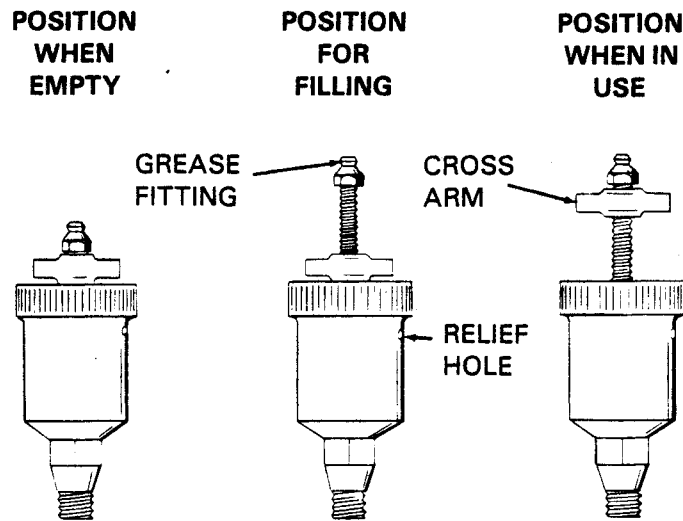

Figure 4. Automatic Lubricating Grease Cup
Before removing the seal assembly, turn the cross arm on the seal grease cup (9) clockwise until it rests against the cover (see figure 4). This will prevent the grease in the cup from escaping after the seal is removed.
Before starting the pump, fill the seal grease cup through the grease fitting with a good grade of No. 2 pressure gun grease until grease escapes from the relief hole. Turn the grease cup arm counterclockwise until it is at the top of the stem; this will release the spring to apply grease to the seal (see figure 4).